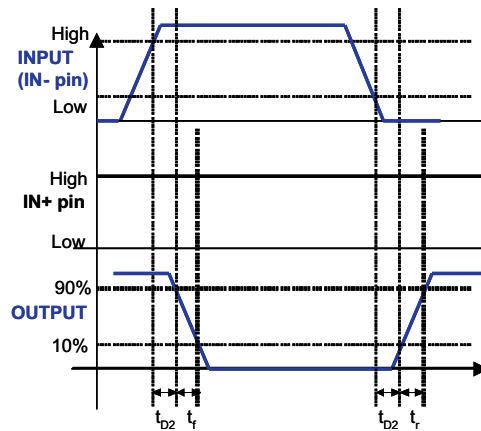
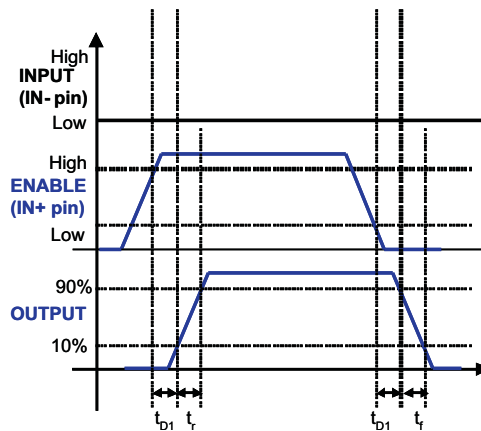

Figure 2. Inverting Configuration (PWM input to IN- pin (IN+ pin tied to VDD))
Figure 3. Enable and Disable Function Using IN+ Pin (Enable and disable signal applied to IN+ pin, PWM input to IN- pin)
(3) See timing diagrams in Figure 1, Figure 2, Figure 3 and Figure 4.